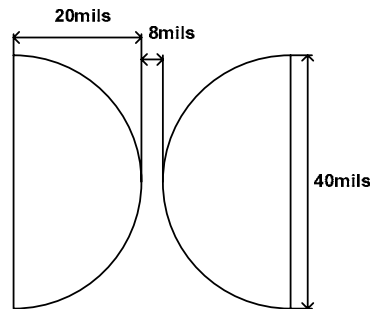

Figure 15. Spark Gap Design
- We suggest two spark gap pads that have half circles with a radius of 20 mils, and with a gap between each of 8 mils. The pads must not be covered with solder mask (copper exposure) and the gap area must be open to the air. The spark gap design is shown in Figure 15